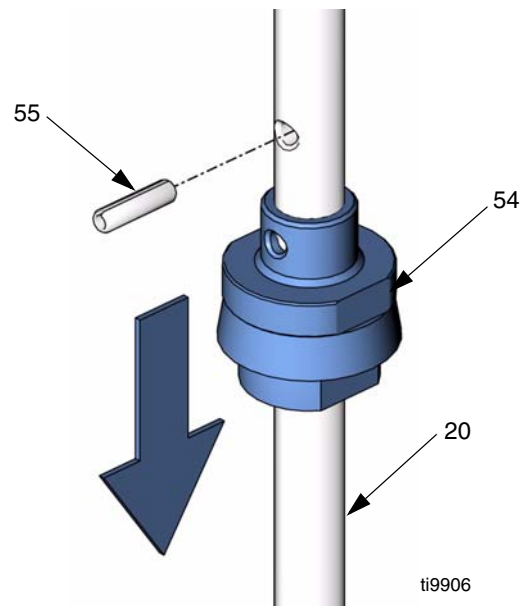

FIG. 20
5. Remove spring pin (55) and slide upper fluid piston (54) down and off the transfer shaft (20). See FIG. 20.